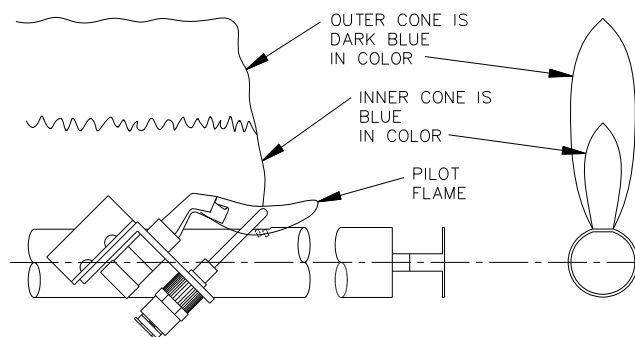

Figure 9.1: Standing Pilot and Main Burner Flame
3. Check the pilot and main burner flame. See Figures 9.1 and 9.2. The pilot should provide a steady flame enveloping 3/8" to 1/2" (1 cm to 1.2 cm) of the flame sensor. If required, adjust the pilot as stated in the gas valve manufacturer's instructions or paragraph 7.D. The main burner flame inner cone should be approximately 1-1/2" (4 cm) high and should have a very sharp, blue color characteristic.